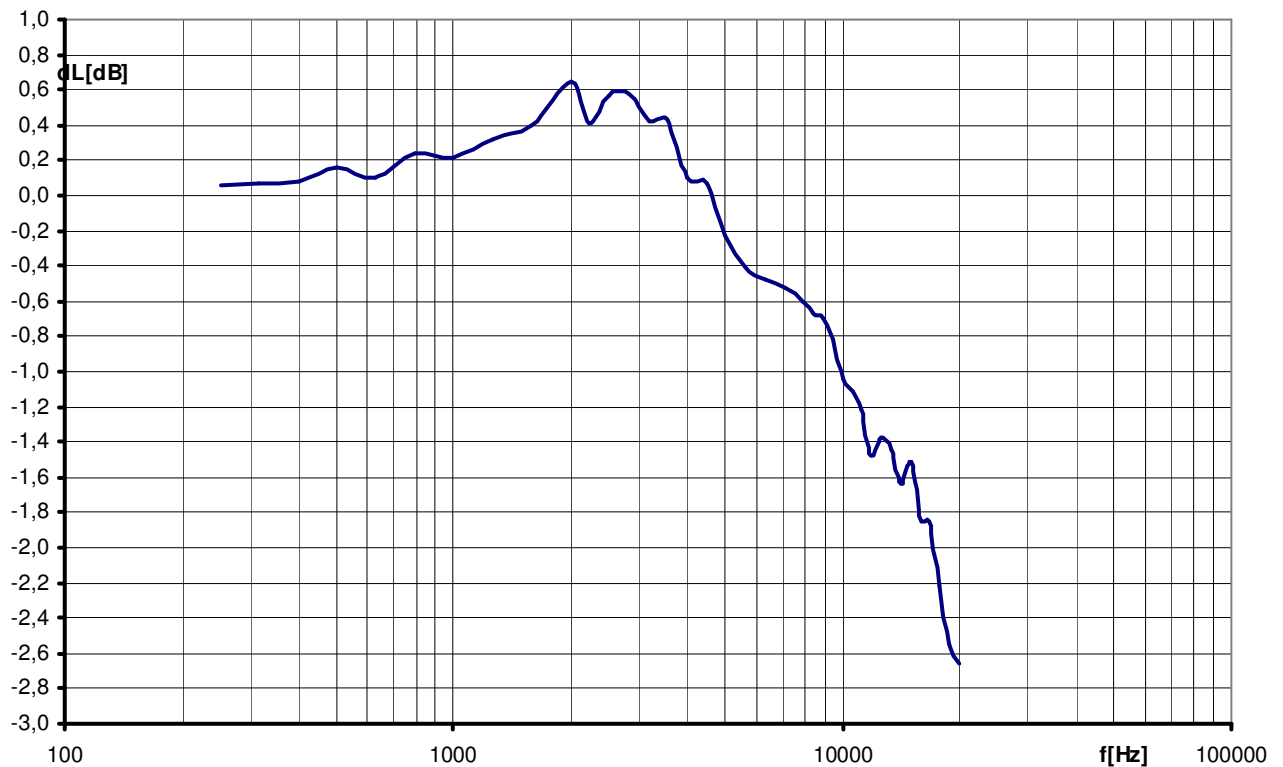

Fig. 1.5. Influence of OP60/2 windscreen.
- Influence of windscreen (at 0° incidence) See table below and Fig. 1.5.